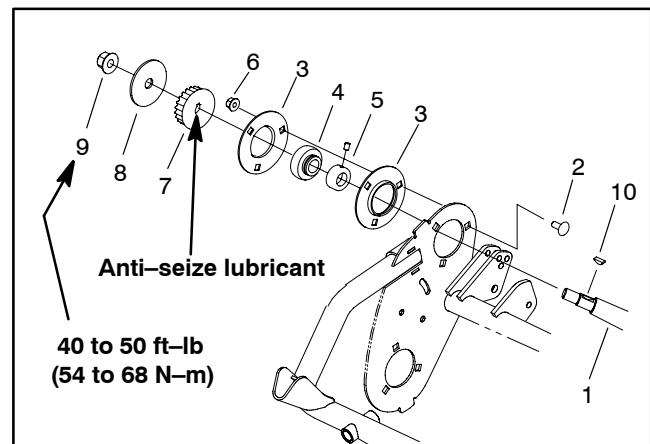

Figure 33
7. Unlock self aligning bearing collars on differential axle shafts (Fig. 33):
1. Gearbox axle (LH)
8. Install locking collars to self aligning bearings (Fig. 33):